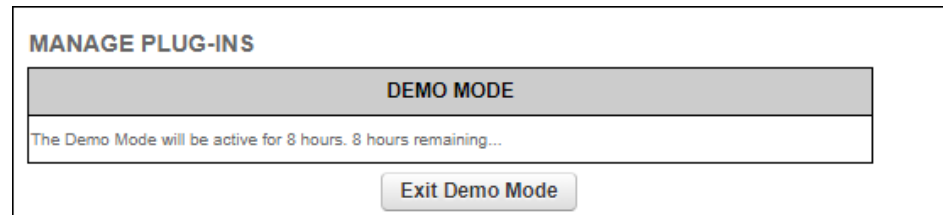

Figure 58. MANAGE PLUG-INS dialog (Demo Mode activated)
- The **Demo Mode** activation dialog will be shown (Figure 58 \(page 143\)). A countdown timer shows how much Demo time remains.